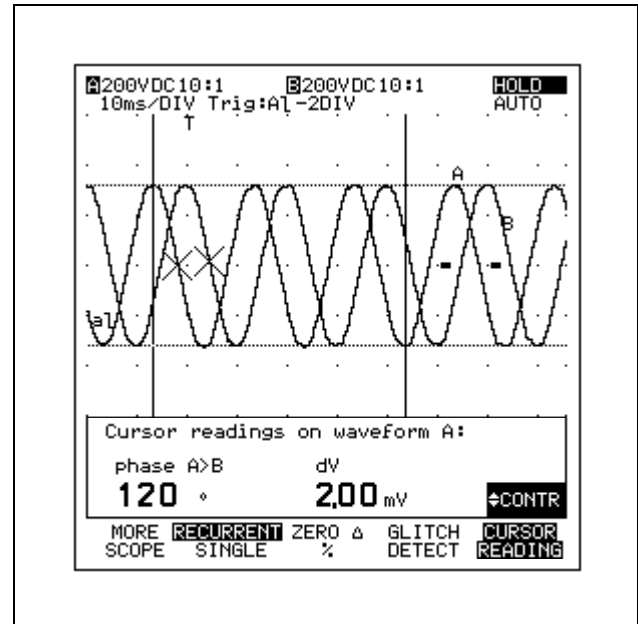

Figure 7-12 Phase Measurement (with Markers)
- ① Measure the two sine wave waveforms as explained in the previous example.
- ②  Return to the main menu.
- ③  Set the test tool to Scope mode.
- ④  Freeze the display; **HOLD** appears in the upper right display.
- ⑤   Activate the Cursor readings.
- ⑥   Go to page 2 within the More Scope window.
- ⑦  Choose ADD MAIN READING.
- ⑧  Open the list box.
- ⑨  : phase A>B  .
- ⑩  Close the window.
- ⑪   Position the two cursors on the waveforms; see Figure 7-12.
The display shows the phase between the waveforms on INPUT A and INPUT B: "phase A>B -120°" (see Figure 7-12).